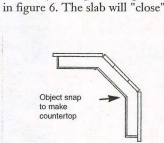

Figure 6
4. Object snap to all eight corners of the base cabinets, as in figure 6. The slab will "close" when you press mouse button 3 (right-most).